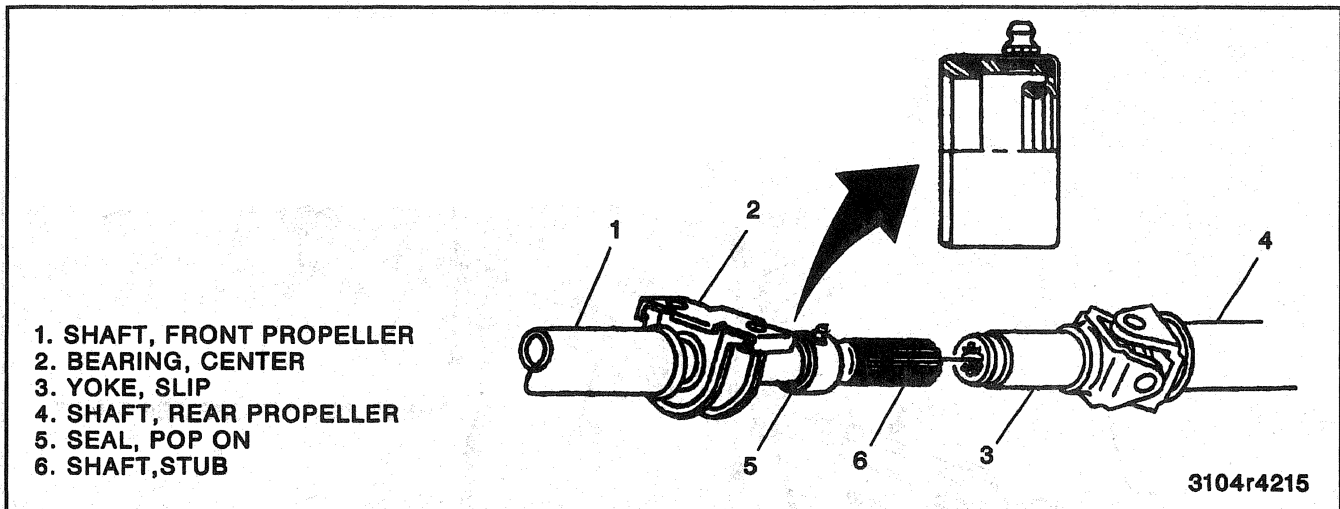

Figure 10—Two-Piece Propeller Shaft (Dana)
- For two-piece Dana propeller shaft, pull the stub shaft out of the slip yoke (Figure 10).